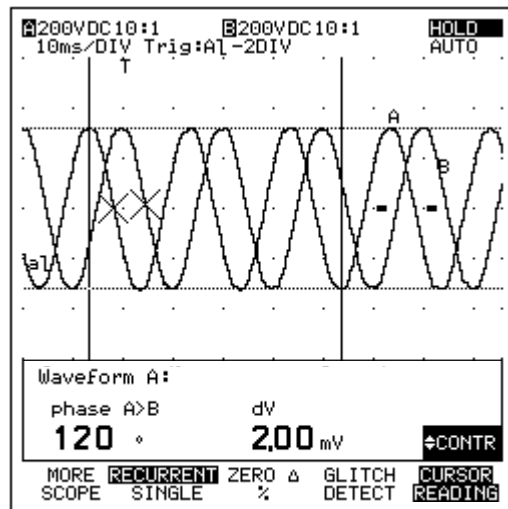

Figure 7-12. Phase Measurement (with Markers)
① Measure the two sine wave waveforms as explained in the previous example.
②  Return to the main menu.
③  Set the test tool to Scope mode.
④  Freeze the display; **HOLD** appears in the upper right display.
⑤    Activate the Cursor readings.
⑥    Go to page 2 within the More Scope window.
⑦  Choose ADD MAIN READING.
⑧  Open the list box.
⑨  : phase A>B  .
⑩  Close the window.
⑪   Position the two cursors on the waveforms; see Figure 7-12.
The display shows the phase between the waveforms on INPUT A and INPUT B: "phase A>B -120°" (see Figure 7-12).